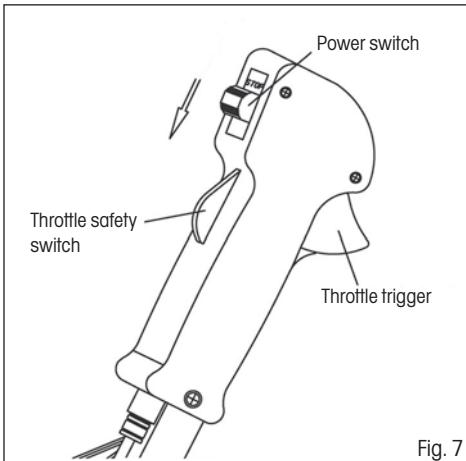

Fig. 7
1. Set the power switch to the "START" position. (see fig. 7)
- ❖ To increase speed, first use the palm of your hand to push down the throttle safety switch and then use your finger to pull on the throttle trigger (see fig. 7)